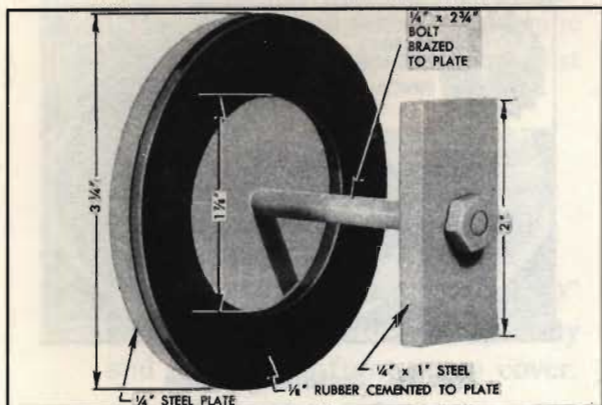

Fig. 32. Plate and washer for pump test
1. To close the converter pump hub opening, make a fixture as shown in Fig. 32.